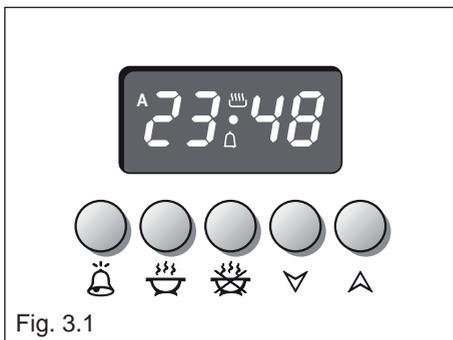

Fig. 3.1
- Unhook the terminal board cover by inserting a screwdriver into the two hooks "A" (fig. 3.1).